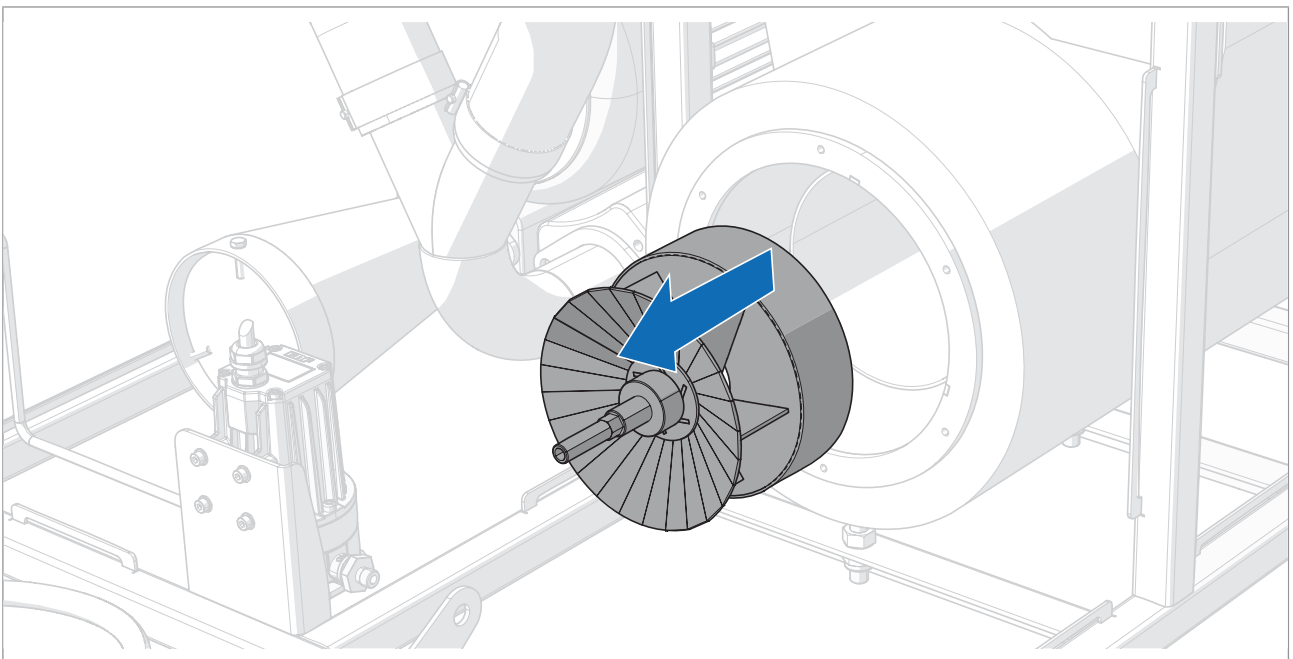

Figure 7 Changing the spray nozzle
3. Change the spray nozzle (see figure 7).